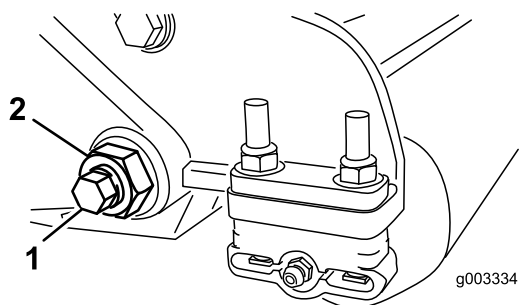
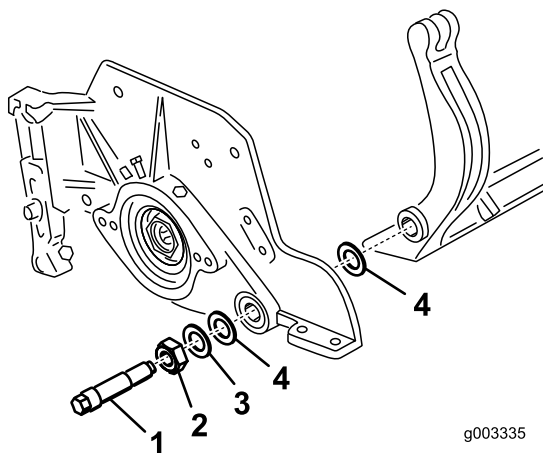

Figure 30
Figure 31
- On each side of the machine, loosen the lock nut securing the bedbar bolt (Figure 30).
- Remove each bedbar bolt allowing bedbar to be pulled downward and removed from machine bolt (Figure 30). Account for 2 nylon and 1 stamped steel washers on each end of bedbar (Figure 31).
- Secure bedbar to each side plate with bedbar bolts (nuts on bolts) and 6 washers. A nylon washer is to be positioned on each side of side plate boss. Place a steel washer outside each of the nylon washers (Figure 31). Torque bedbar bolts to 27-33 ft.-lb. Tighten locknuts until the outside steel washer stops rotating and end play is removed but do not overtighten or deflect side plates. Washers on inside may have a gap.